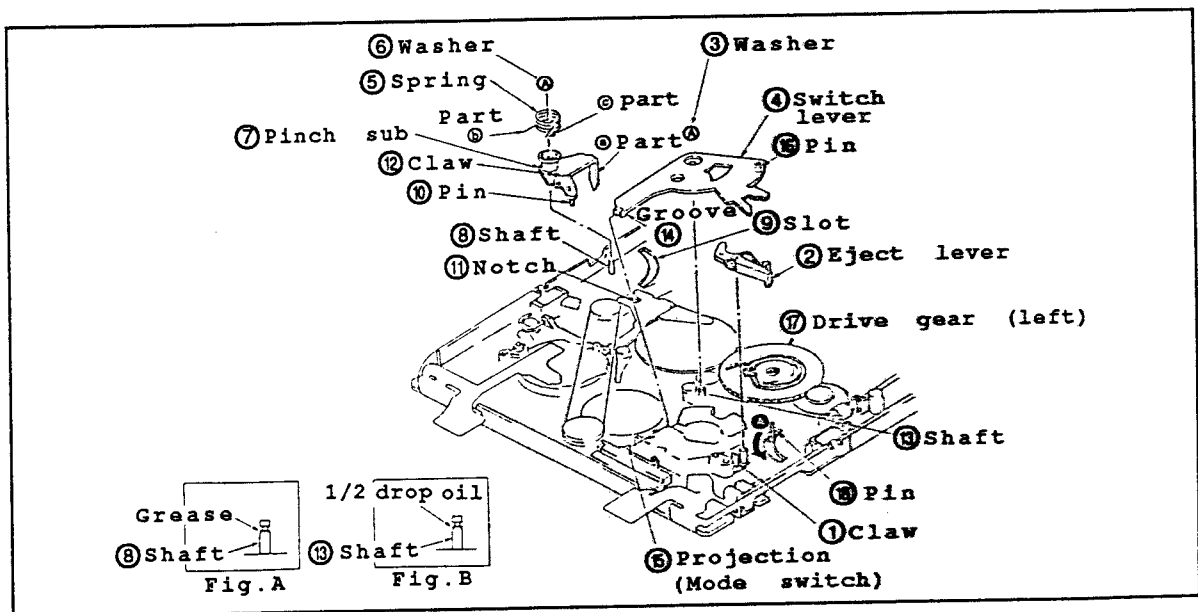

Fig.II-20
• Disassembling (Fig.II-20)
- (1) Set unloading state.
- (2) In the same procedures in "3-3", dismount the capstan motor.
- (3) To dismount the eject lever ②, unhook the claw ①.
- (4) To detach the switch lever ④, remove the washer ③.
- (5) Remove the spring ⑤.
- (6) To detach the pinch sub arm ⑦, remove the washer ⑥.
• Reassembling (Fig.II-20)
- (1) Apply the grease onto the shaft ⑧. (Fig.A)
- (2) Assemble the pinch sub arm ⑦ while inserting the ② part into the slot ⑨.
- (3) Secure it with the washer ⑥.
- (4) Hook the ⑥ part of spring ⑤ between the claw ⑫ and the chassis side while hooking ③ part to the claw ⑫.
- (5) Apply 1/2 drop of oil to the shaft ⑬. (Fig.B)
- (6) Assemble the switch lever ④ to the shaft ⑬ while aligning the groove ⑭ with the projection ⑮ of mode switch. At this time, insert the pin ⑮ to the outside groove ⑯ of drive gear (left) ⑰.
- (7) Secure it with a washer ③.
- (8) Attach the eject lever ② and hook the claw ①.
- (9) In the same procedures in "3-3", mount the capstan motor.
*Note: When installing the switch lever ④ to the shaft ⑬, set the pin ⑮ of tension regulator arm to the inside of switch lever ④. (within the extent of ① indicated by an arrow.)